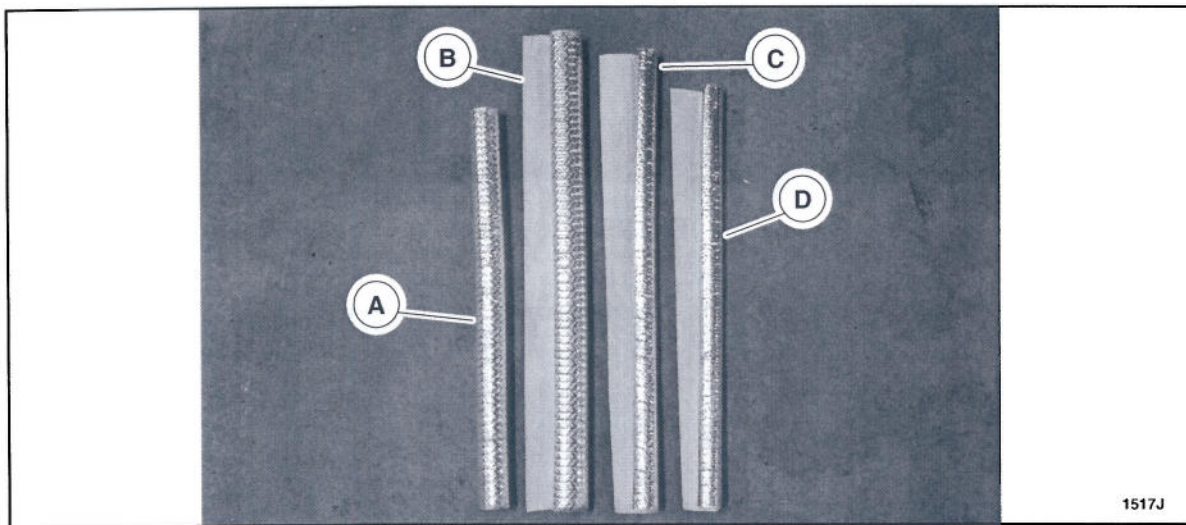

FIGURE 8
10. Install the thermal wraps onto the vapor lines above the rear sway bar. For steps 10b-10d, gradually slide the thermal wraps over the vapor lines, peeling back the protective film and folding the adhesive flap over to seal the wrap over the vapor line. See Figures 8 through 11.